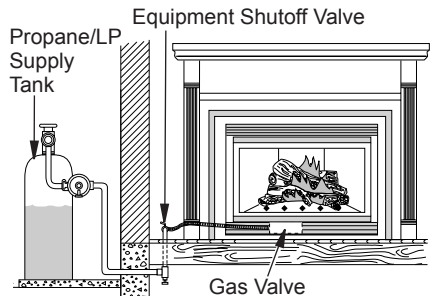

Figure 35 - Checking Gas Joints for Propane/LP Gas Fireplace
3. Check all joints from propane/LP supply tank or gas meter to equipment shutoff valve (see Figure 35 or 36). Apply noncorrosive leak detection fluid to all joints. Bubbles forming show a leak. Correct all leaks at once.
4. Check all joints from equipment shutoff valve to gas valve (see Figure 35 or 36, page 23). Apply noncorrosive leak detection fluid to all joints. Bubbles forming show a leak. Correct all leaks at once.